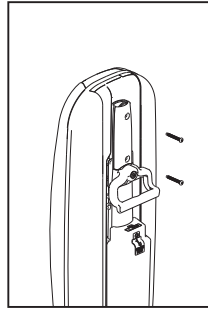

Fig. 1
- Remove the handle bracket by removing the two screws (Fig. 1).
- Secure with two screws removed in Fig. 1. Tuck the cord into the space to the left of the handle.